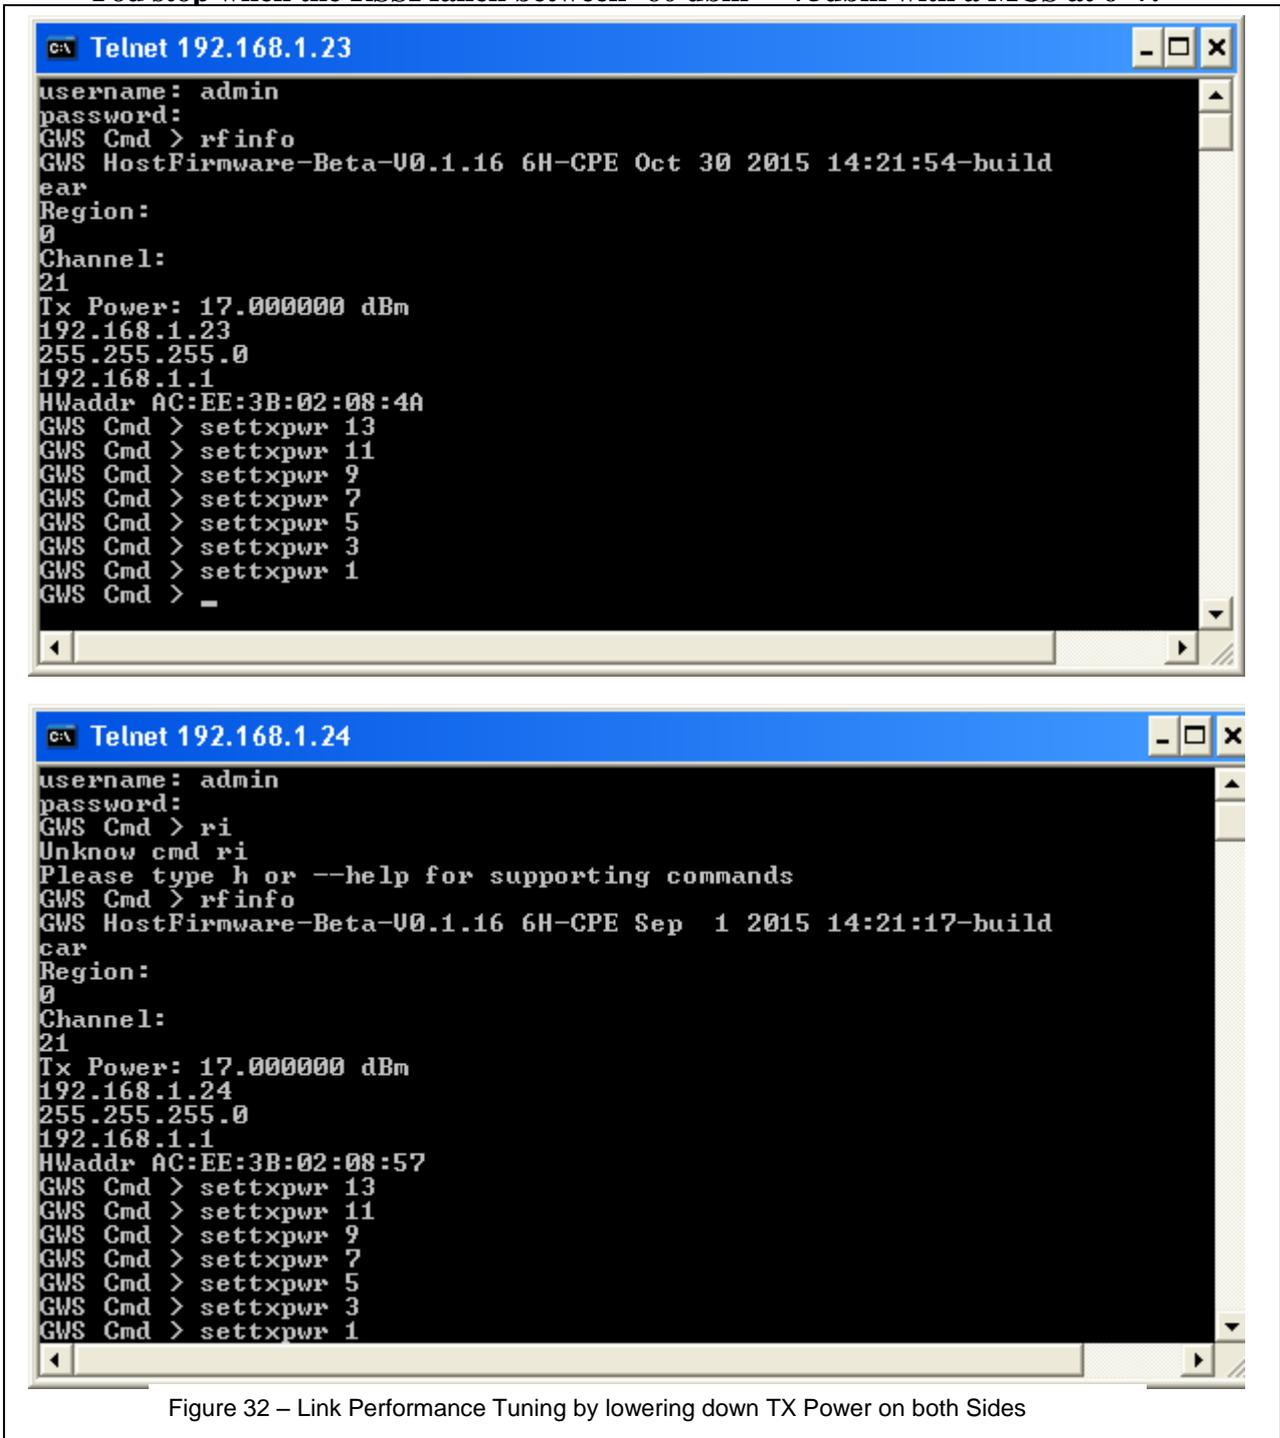

Figure 32 – Link Performance Tuning by lowering down TX Power on both Sides
21.4 Figure 32 shows an example of lowering down TX power to tune link balance and performance. You gradually lower down the TX Power and wait a minute to see the RSSI and MCS feedback. The RSSI should go down and MCS should go up. You stop when the RSSI fallen between -60 dbm ~ -75dbm with a MCS at 6~7.